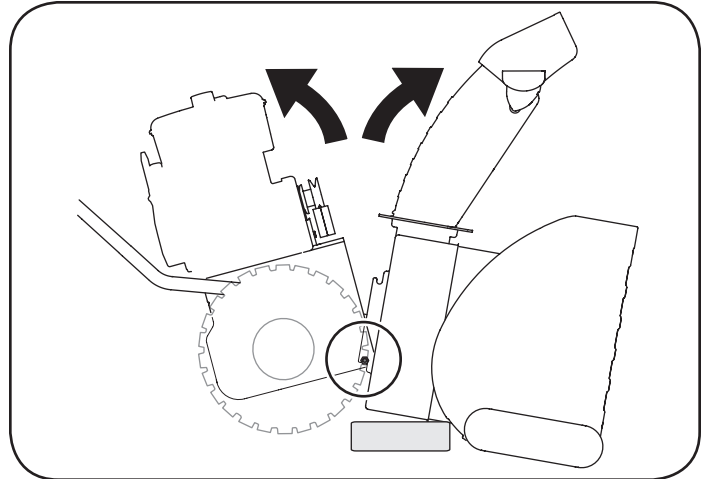

Figure 27
5. Place a block of wood underneath the auger housing as shown in Figure 27 and separate auger housing from the frame by tilting the housing forward and pulling up the handles.